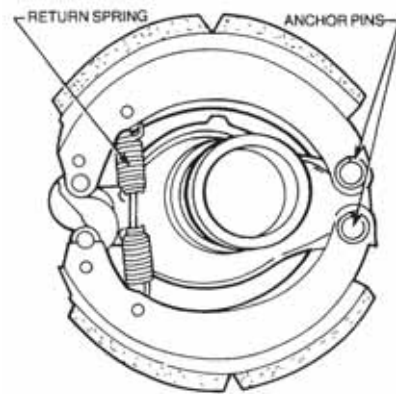

Figure 10 Brake Shoes Removal/Installation
34. **Removal.** Remove the brake shoes as follows (Figure 10):
36. **Installation.** Install the brake shoes as follows (Figure 10):